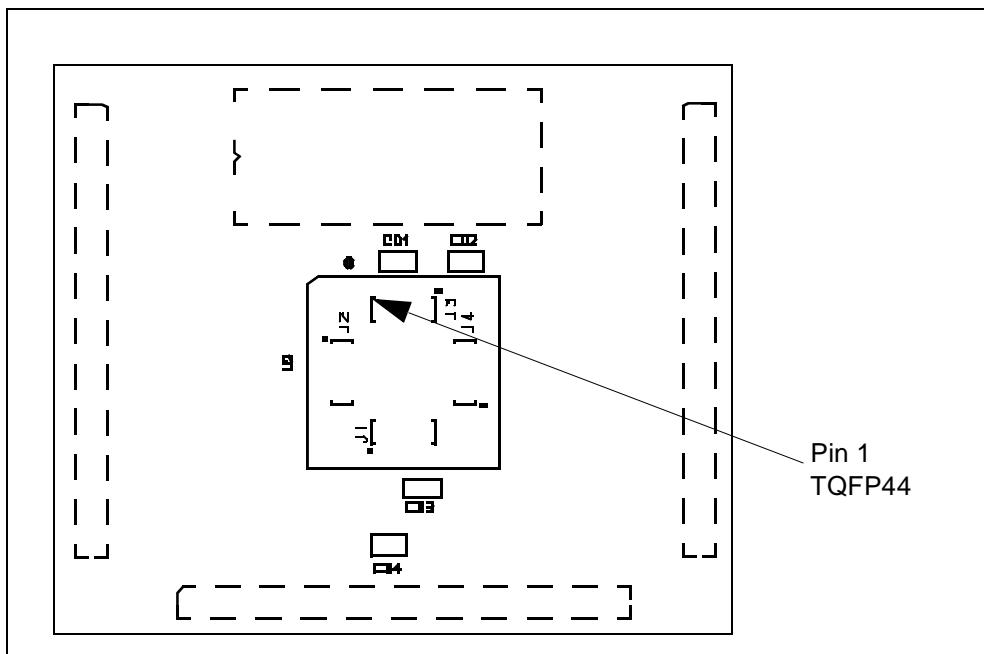

Figure 9: TQFP44 Pin 1 Location on TQFP44/SDIP42 adapter probe (ref.: DB444)
- 4 Now connect the joined generic and adapter probes to the TQFP44 device adapter, by inserting the male pins of the device adapter into the female connectors on the underside of the TQFP44/SDIP42 Adapter Probe. Take care to align pin 1 of the device adapter with pin 1 on the underside of the adapter probe. (On the TQFP44/SDIP42 MCU Adapter Probe (ref.: DB444), pin 1 is indicated by a little arrow—see *Figure 9*.)